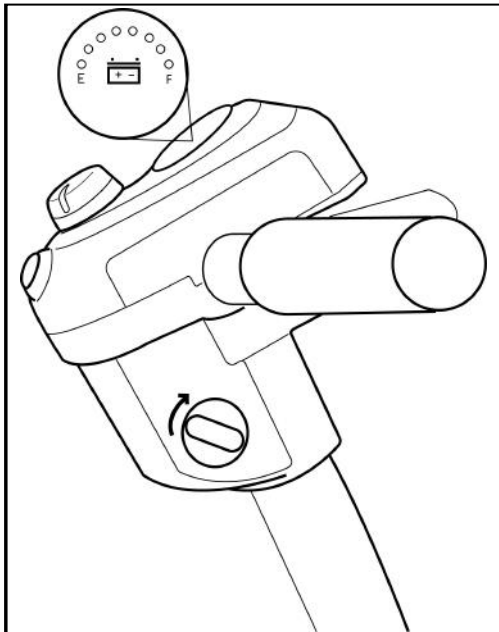

Figure 13. Key Switch (Off)
6. Rotate the key clockwise to the on position. See figures 13 and 14.